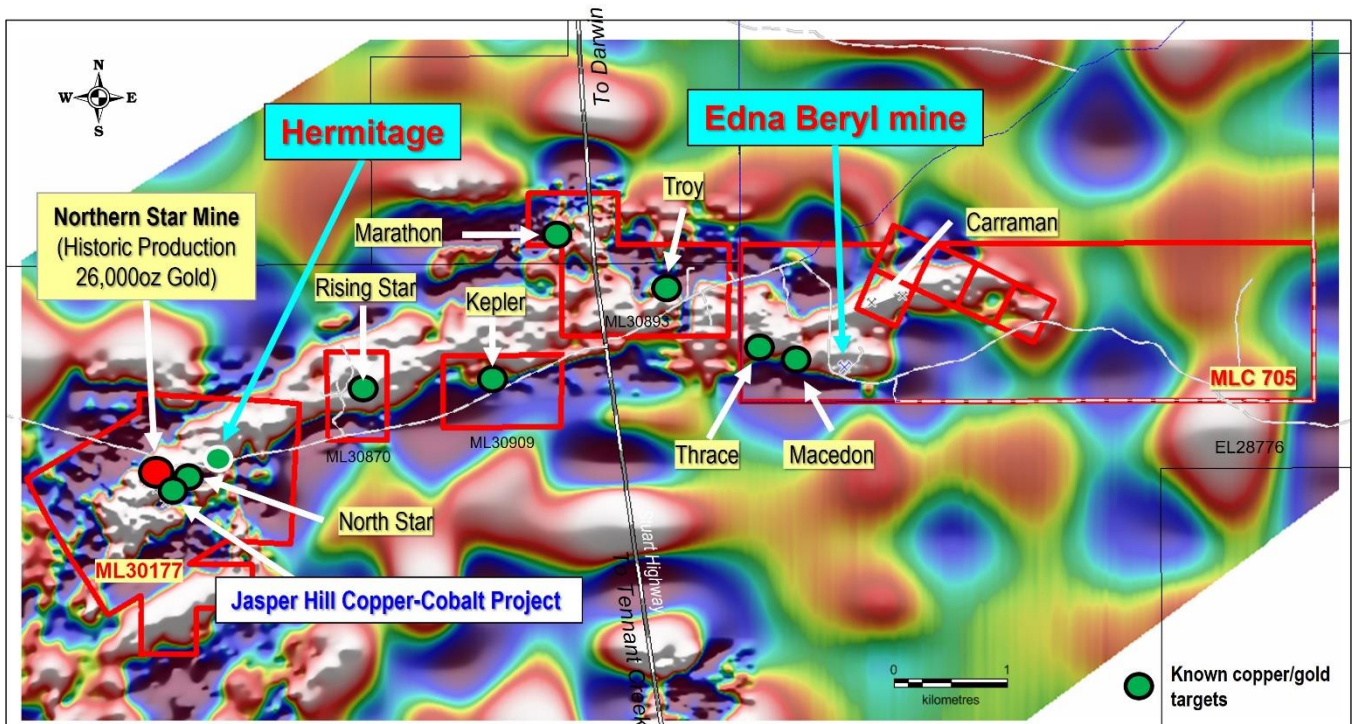

Figure 2: Location map showing tenement in the Northern Project Area (NPA) with known copper and gold prospects over gravity magnetic image.
Hermitage is one of a cluster of 100% Emmerson owned prospects that include North Star, Jasper Hills, Katherine Star and Northern Star in Mining Lease (ML) 30177 along with Edna Beryl, Thrace, and Macedon in ML 705 (Figure 1). These prospects occur within a broad gravity corridor that consist of denser, haematitic shales and jasper which host high grade copper, gold, and cobalt mineralisation within magnetite-hematite ironstones (Figure 2). From previous seismic surveys, this gravity corridor likely corresponds to a deep (+10km), north verging thrust fault – a similar structural setting to the other large deposits in the Tennant Creek Mineral Field (TCMF).